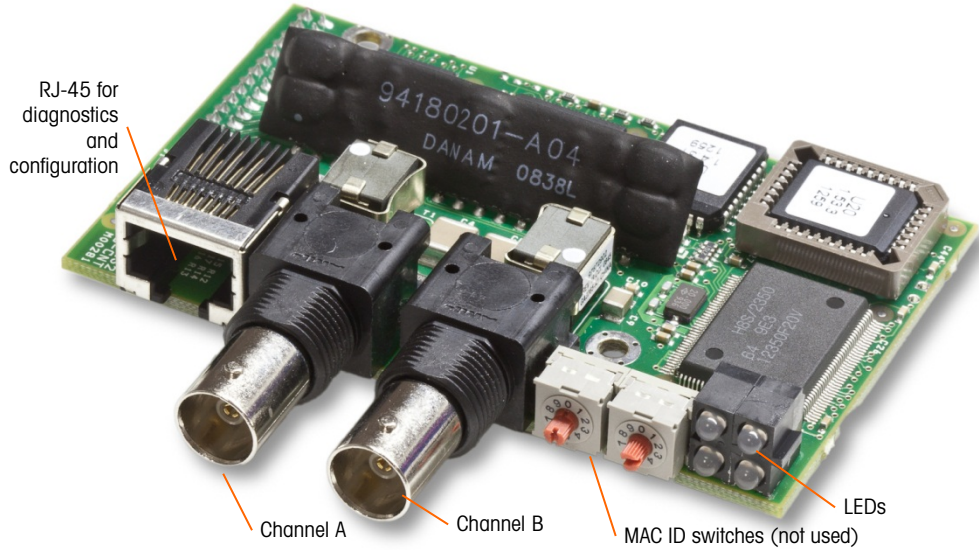

Figure 2-59: ControlNet PLC Module Connections and Components
The ControlNet PLC Module (Figure 2-59) connects to the ControlNet network via a tap and drop cable from the original trunk cable. The option supports one connection or two (for redundancy). Channel A is the normal connection and Channel B (redundant with Channel A) can be used if ControlNet detects no signal on Channel A. Note that the module's address is set in software, and the MAC ID switches indicated in Figure 2-59 are not used.
- **Do not** plug an Ethernet cable into the RJ-45 connector shown at left in Figure 2-59. This connection is not used.